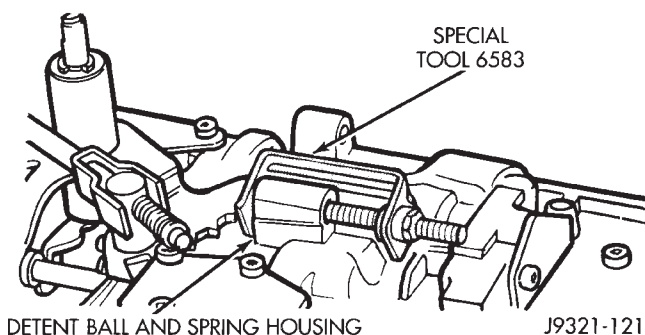

Fig. 103 Securing Detent Ball And Spring With Retainer Tool
(3) Secure detent ball and spring in housing with retainer tool 6583 (Fig. 103).